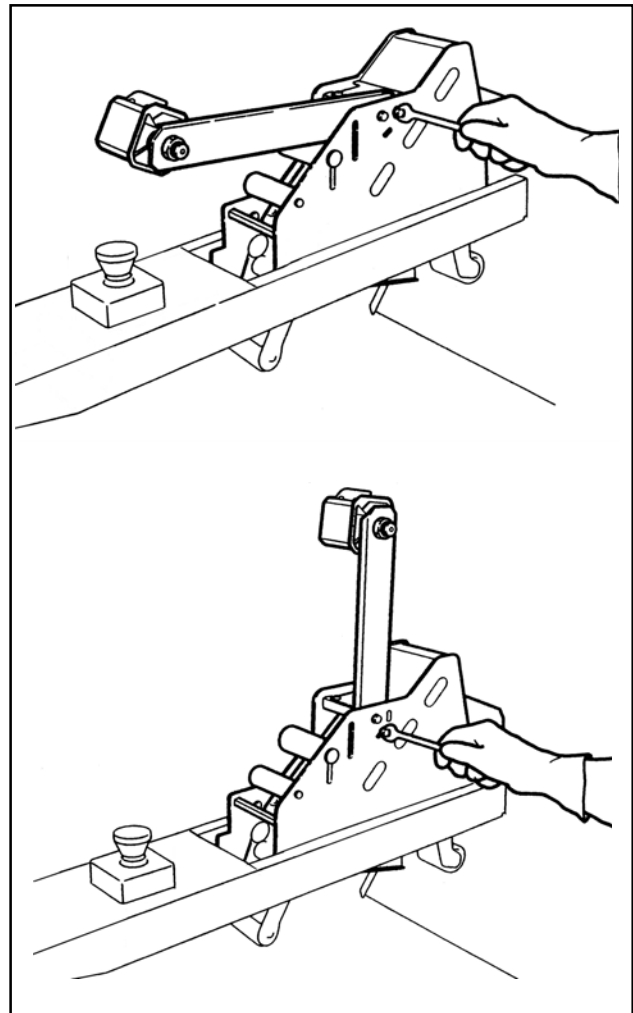

Figure 2-9—Lower Tape Drum Bracket Position
3. Using a 10 mm open-end wrench, loosen the capscrew on the tape drum bracket assembly and move the assembly to the vertical position, as shown in Figure 2-9. Install additional capscrews from the tool kit. The tape drum bracket assembly can be pivoted as necessary to provide tape roll clearance from the floor or overhead obstacles.